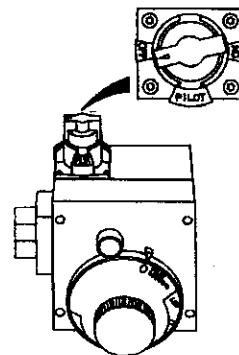
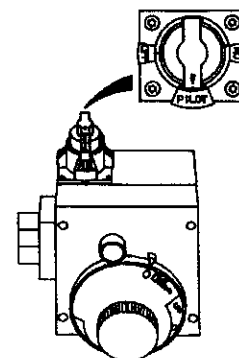

Figure 6
Figure 7
4. Turn gas control knob clockwise (↻) to "OFF" position. Knob cannot be turned from "PILOT" to "OFF" unless knob is depressed slightly. **DO NOT FORCE.** (Figure 6, page 17)
5. Wait five (5) minutes to clear out any gas. If you then smell gas, **STOP!** Follow "B" in the safety information above on this label. If you don't smell gas, go to the next step.
8. If you don't smell gas, turn knob on gas control counter clockwise (↺) to "PILOT" position. (Figure 7, page 17)
9. Push in control knob all the way and hold down. Immediately light the pilot with a match. Continue to hold control knob in for about one (1) minute after the pilot is lit. Release knob and it will pop back up. Pilot should remain lit. If it goes out, repeat steps 3 through 8.
- If the pilot will not stay lit after several tries, depress and turn the gas control knob clockwise (↻) to "OFF" and call your service technician or gas supplier. (Figure 6, page 17)